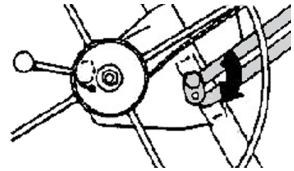

Fig. 6
7. Press the winch assembly slightly back toward the frame until the slide bar lock (Fig. 6) automatically rotates clockwise to engage and keep the winch fully extended. Verify that the slide bar lock is fully engaged, that is, that it is rotated clockwise as far as possible.
Fully extend the winch assembly and then press it back slightly toward the frame to automatically engage the lock (Fig. 6).